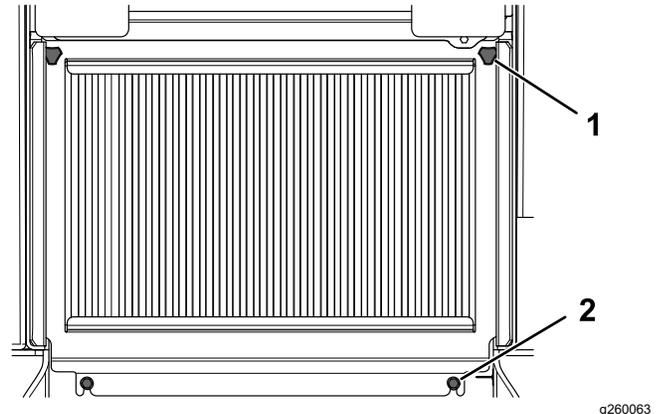

Figure 43
2. Loosen the 2 bolts securing the bottom of the screen (Figure 43).
3. Loosen the 2 knobs on the screen (Figure 43).
1. Knob (2)
2. Bolt (2)
4. Lift the screen and remove it (Figure 43).